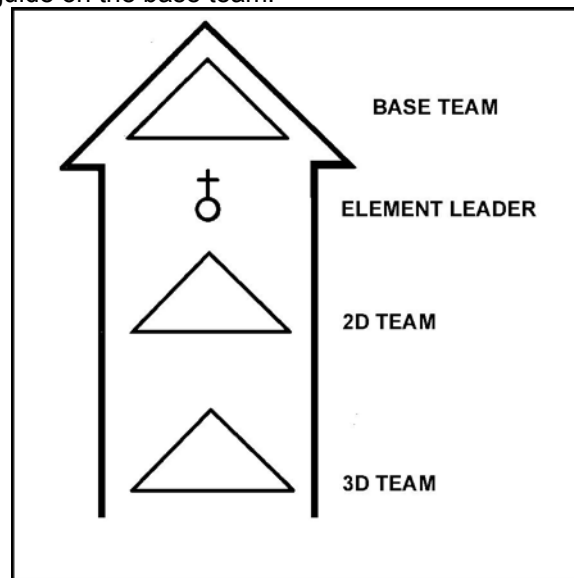

Figure 1. Dismount element column.
- a. Select the dismount element column as the primary movement formation (Figure 1). It has good dispersion in depth and makes control easier. It provides limited fire to the front but a high volume of fire to the flanks. The lead fire team is usually designated as the base team. The other fire teams guide on the base team.